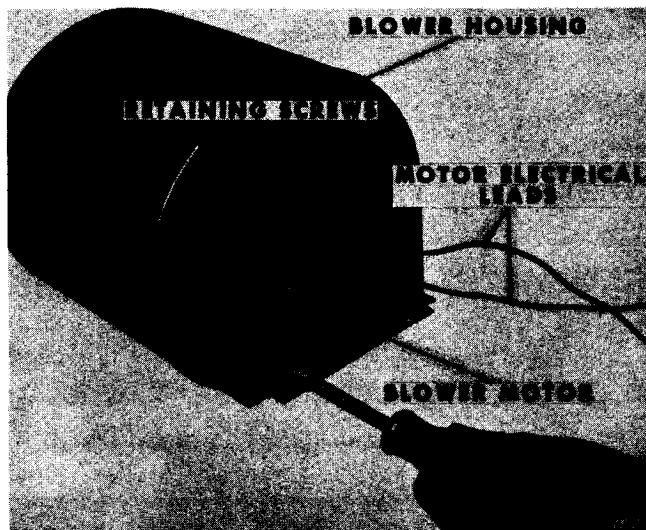

Figure 28 — Removing Blower Motor Retaining Screws
8. Remove three blower motor retaining screws and washers (Figure 28). Carefully remove blower motor from blower housing.
check to be sure the motor is positioned as shown in Figure 28, with motor electrical leads facing blower housing mounting flange.